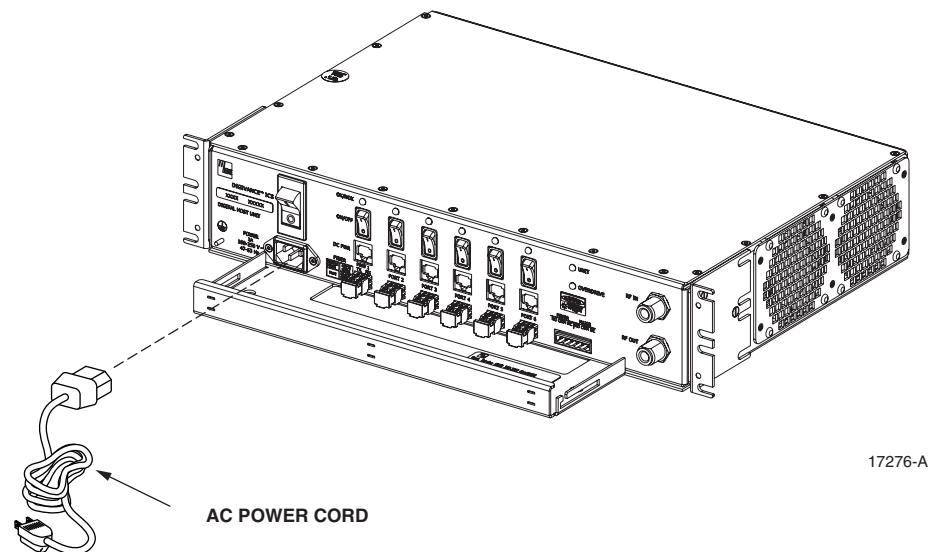

Figure 24. AC Power Connection
2. Place the DHU AC power ON/OFF switch, shown in Figure 24, in the **OFF** position (press **0**).